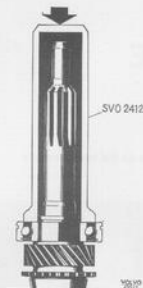

Fig. 4-40. Fitting ball bearing on input shaft
4. Press the bearing onto the input shaft with the help of drift 2412, see Fig. 4-40. Select a snap ring of suitable thickness and fit it. Place the 14 bearing rollers for the mainshaft in position in the input shaft. Use grease to hold the rollers in place. Press the input shaft into position in the housing. Press the oil seal into the cover with drift 2867. Then fit the cover over the input shaft. Do not forget the O-rings for the bolts.